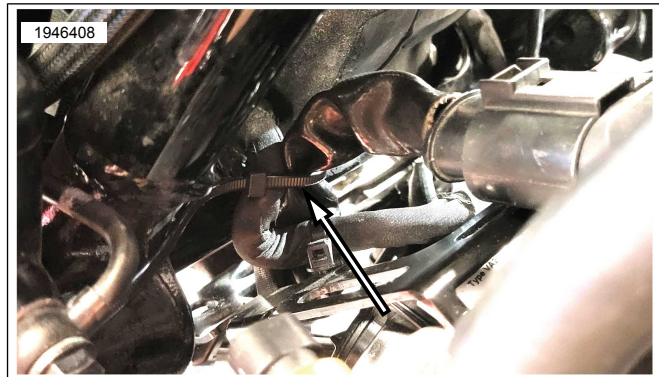
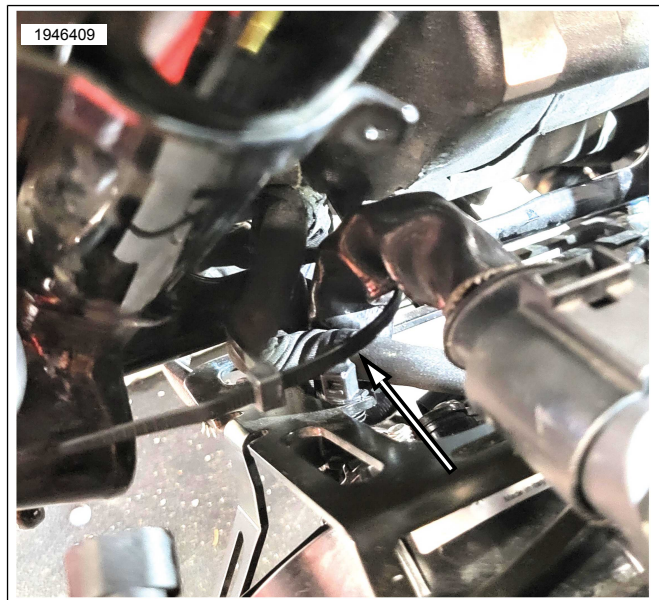

Figure 3. Tight Cable Strap
Figure 4. Loose Cable Strap
2. See Figure 3 and Figure 4. Secure voltage regulator harness into position with cable strap.